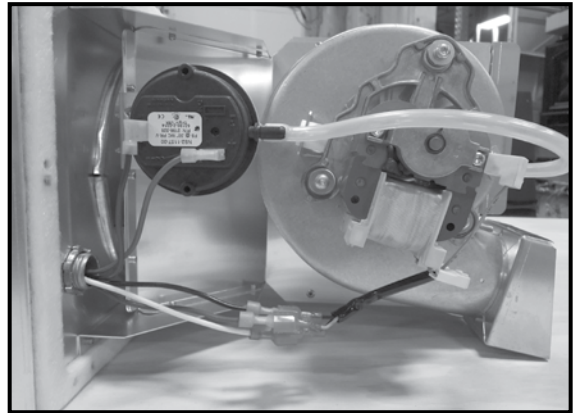

Figure 3.13
*NOTE: After all wires are connected, the wire should look like the picture in Figure 3.13.*